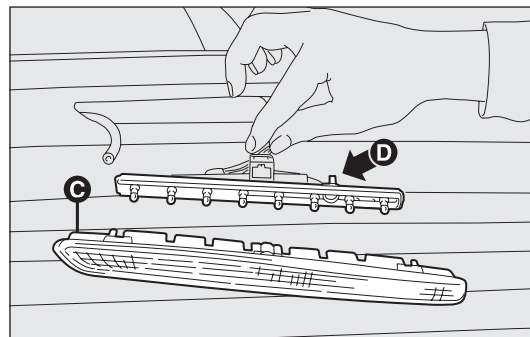

fig. 177
THIRD BRAKE LIGHT fig. 177
- ☐ press in the catches and remove the lens unit C-fig. 177;
- ☐ press in the tabs D-fig. 177 and remove the bulb holder;